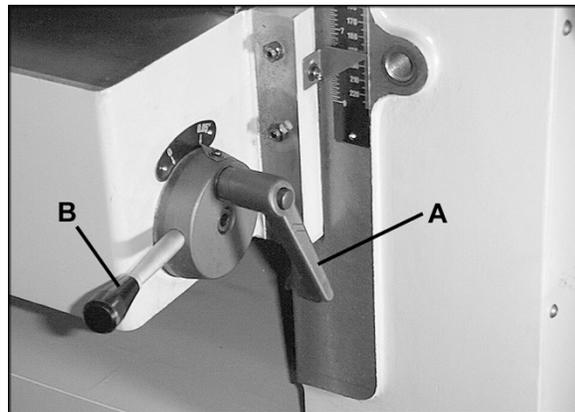

Figure 16
To adjust the height of the table rollers, loosen the handle (A, Figure 16) and move the quick-set lever (B, Figure 16) until the indicator is at the desired setting on the scale. Re-tighten the handle (A, Figure 16) to lock the setting.
2. Loosen lock handle and position the quick-set lever (Figure 16) to zero.
Using a piece of semi-finished stock, set up for a 1/16" (1.59mm) deep cut with the quick-set table roller adjustment (shown in Figure 16) set at zero. Start the machine and, standing to one side of the table, begin feeding the stock into the machine.